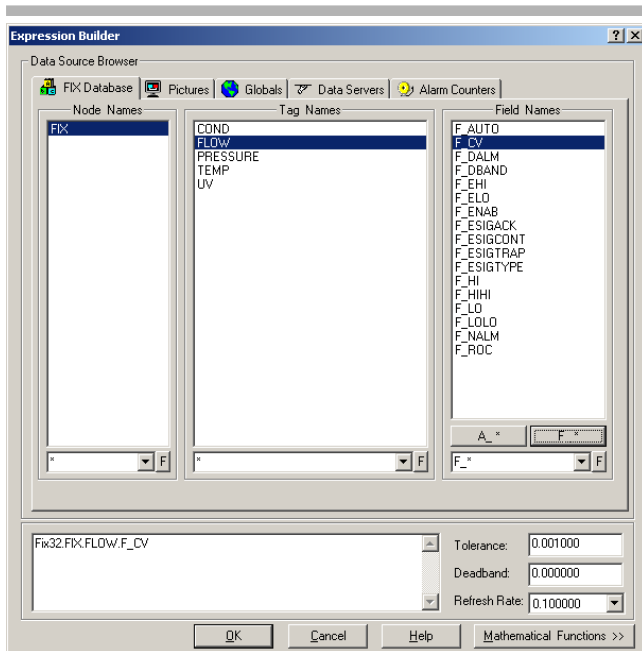

Fig 11.
- 4.4 A window similar to Figure 11 will appear. Follow the same steps to select the tagnames (steps 5.4 to 5.7).
- 5.3 Click the “...” button on the Source area to open Expression Builder screen (Fig 11).